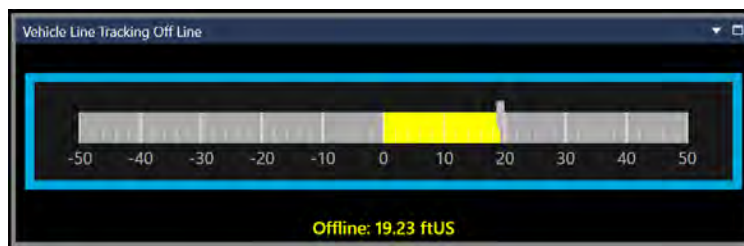
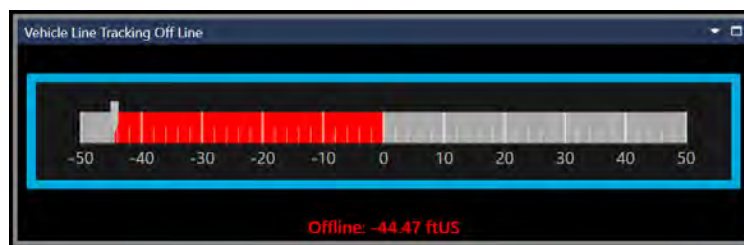

FIGURE 12-27 YELLOW OFFLINE DISPLAY
FIGURE 12-28 RED OFFLINE DISPLAY
- **Color:** The color with which to fill the offline display bar once the distance has exceeded the specified range. To change the color, click the drop-down button to expand the color picker and choose a new color. Figure 12-27 and Figure 12-28